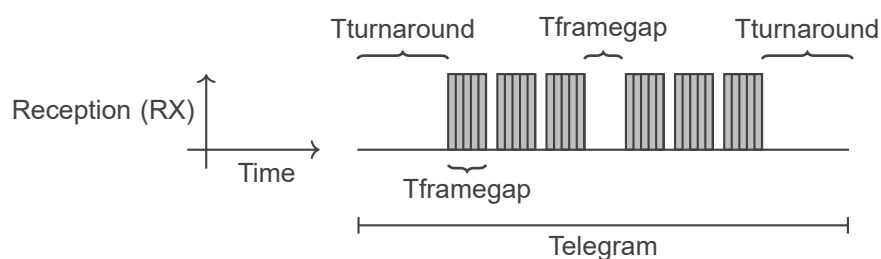

Figure 2.3: BACnet data reception
Reception (RX): The maximum time between bytes ($T_{framegap}$) is of 20-bit times, and the minimum time between frames ($T_{turnaround}$) after the last byte stop bit is of 40-bit times, according to the Figure 2.3 on page 2-2.